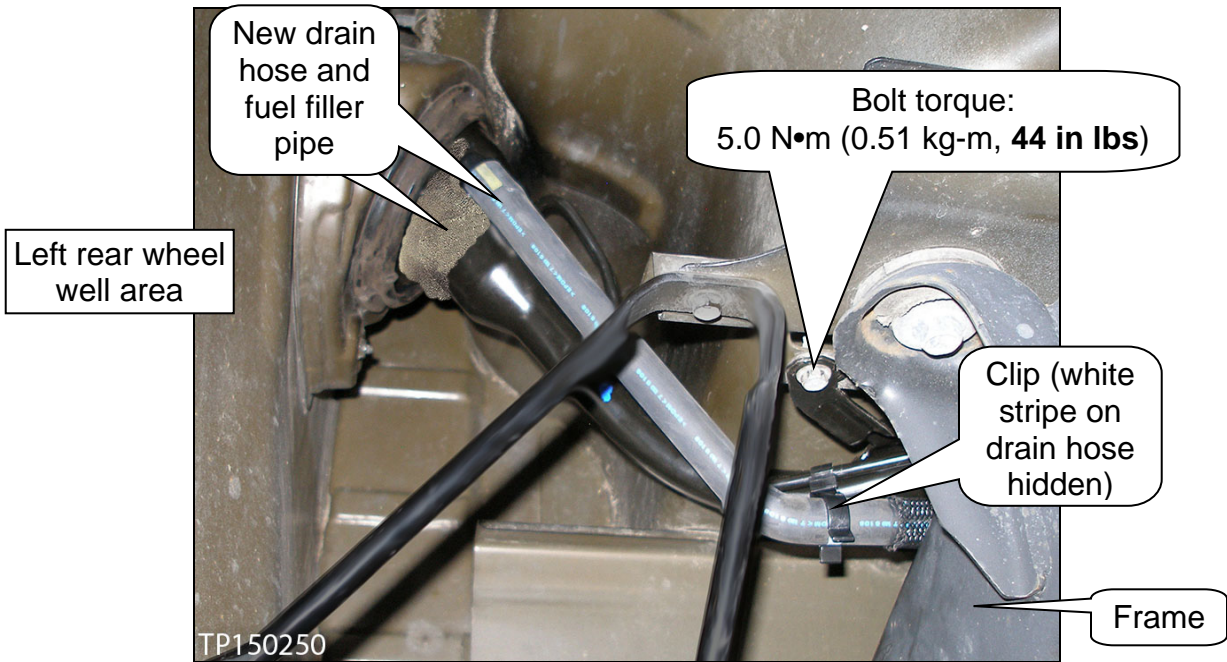

Figure 4: King Cab and long wheel base Crew Cab
3. Connect and route the new drain hose to the fuel filler pipe (Figures 4 and 5, as they apply).